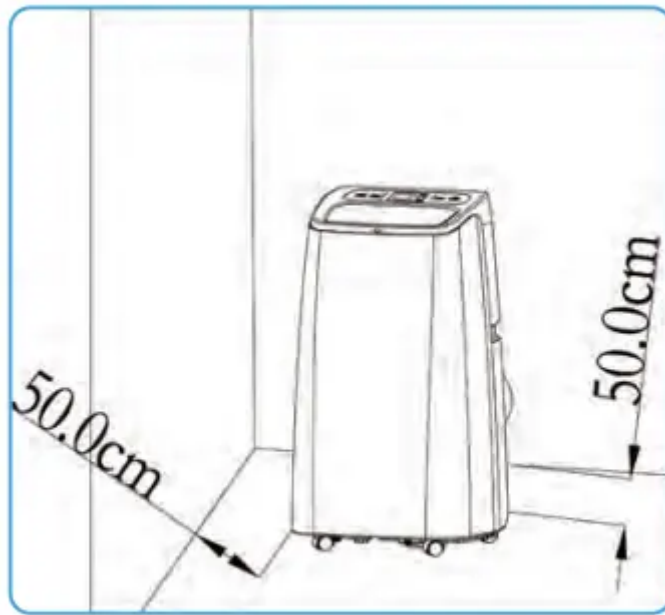

Figure 4
1. Move the machine with installed heat hose and fittings near the window. The distance between the unit and walls or other objects shall be least 50cm (as shown in Figure 4)